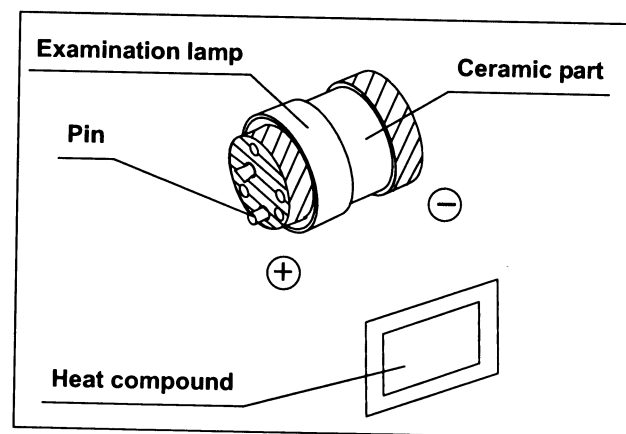

Figure 5.6
2. Using your finger, apply the heat compound, provided with the new examination lamp thickly and evenly on the "+" side electrode of the examination lamp (see the shaded sections in Figure 5.6).
3. Insert the "+" side electrode of the examination lamp (see Figure 5.6) into heat sink (B) and tighten the three bolts firmly with the hexagon wrench.
4. Using your finger, apply the heat compound thickly and evenly on the outer periphery of the "-" side electrode of the examination lamp (see the other shaded section in Figure 5.6).
5. Insert the "-" side electrode of the examination lamp (see Figure 5.6) into heat sink (A) until it stops.